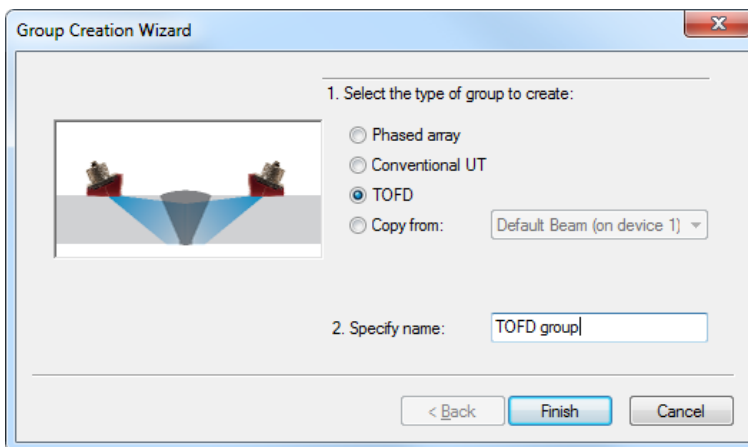

Figure 4-16 The Group Creation Wizard dialog box
2. In the Group Creation Wizard dialog box that appears (see Figure 4-16 on page 243).